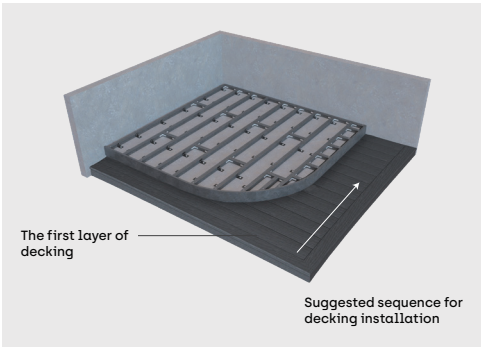

Figure 3-3
- 2. Install the first-layer decking, as shown in Figure 3-3.